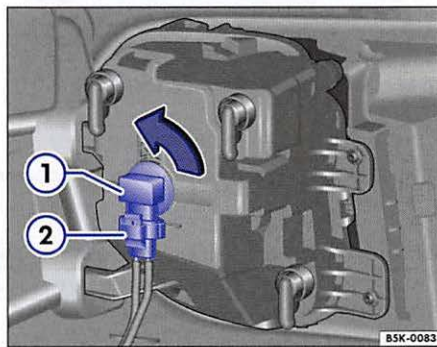

Fig. 171 Remove bulb in fog light.
3. Release the connector ⇒ fig. 171 ② and pull it off.
4. Rotate the bulb holder ⇒ fig. 171 ① as far as it goes to the left and pull it out with the light bulb to the rear.
7. Attach the connector ⇒ fig. 171 ② to the bulb holder ⇒ fig. 171 ①. The connector must latch audibly.